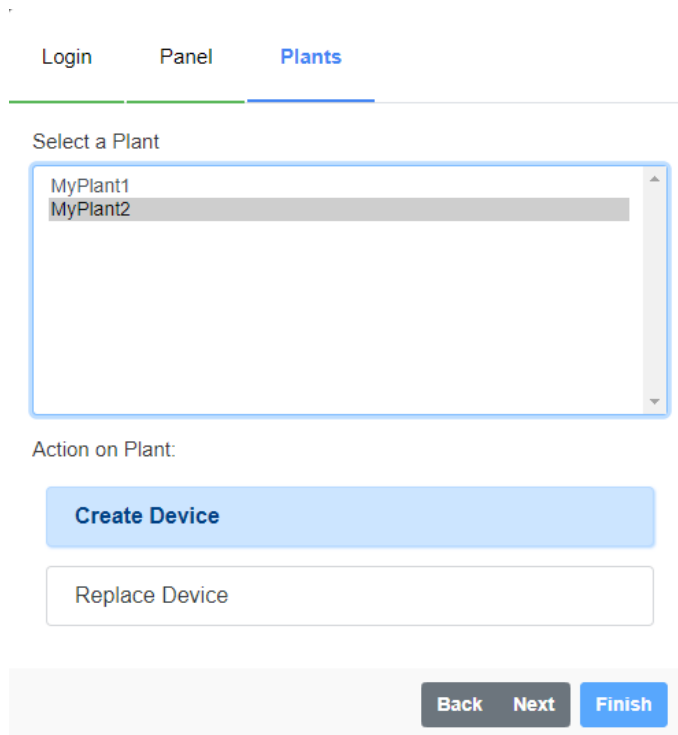

Figure 6.14: Action on the plant of the Drive Scan MFM
- Go to **Step 13** (if “Create Device” option - Figure 6.14);